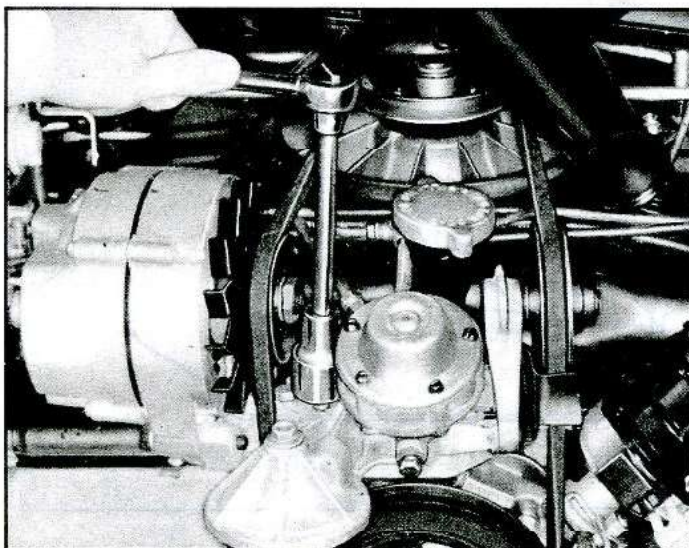

Fig. 25—Oil Pressure Sending Unit Removal
2. Remove sending switch using Tool J-21757 (fig. 25).